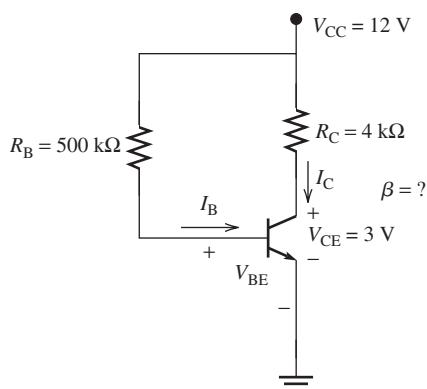

FIGURE P8.37 A simple transistor circuit.
- 8.37** (H)* Assume that the voltage across a transistor's collector and emitter has been measured at 3 V, as shown in Figure P8.37. Other parameters are also given in Figure P8.37. Calculate the current gain, β .